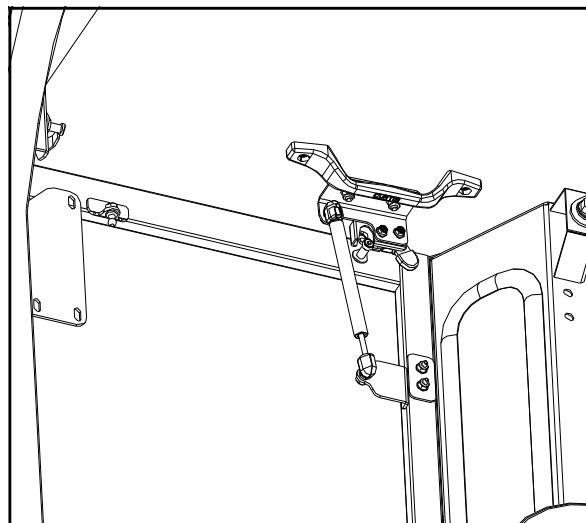

Fig. 12.2 (Roof Gas Shock Installation)
12.2 Disengage the roof latches, manually lift the roof, and install the gas shocks. See Fig. 12.2. *Note: Orient the gas shocks so that the piston rod is pointing down for best, continuous seal lubrication and longest gas shock life.*